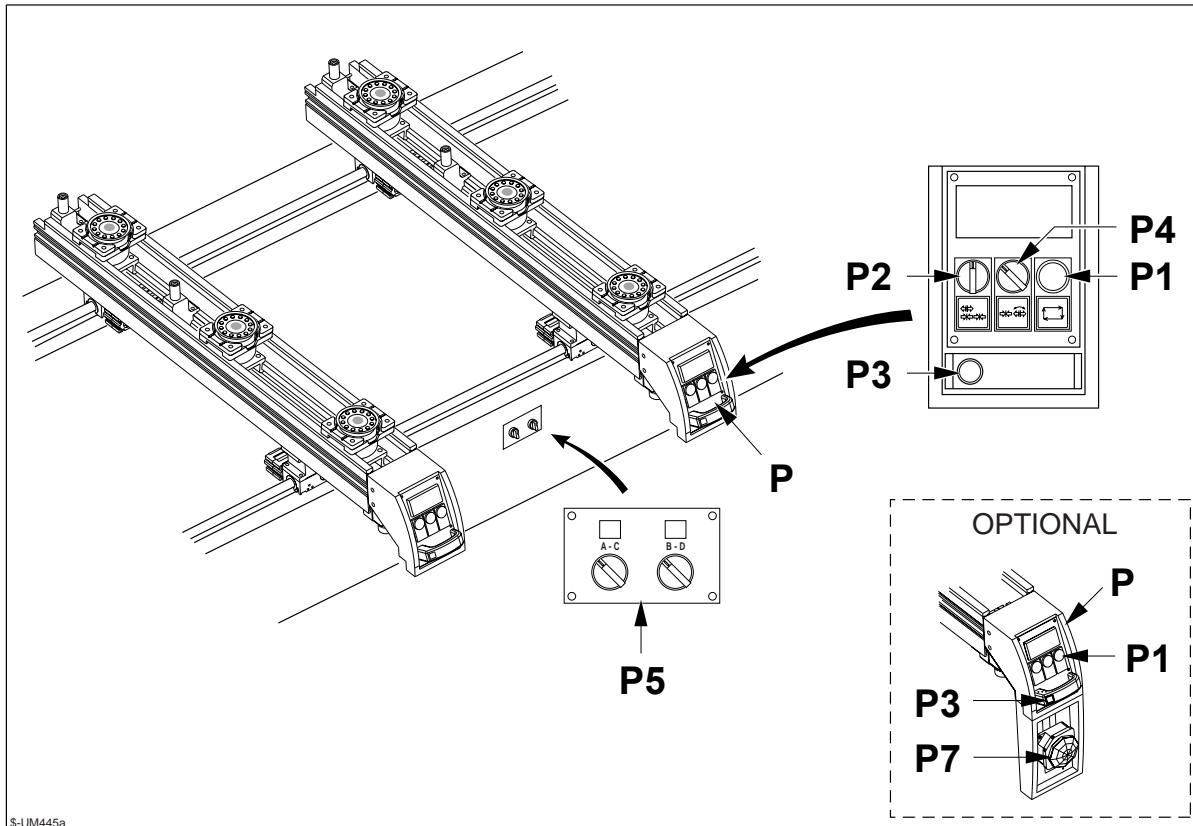

Fig. 4.6
- Press start pushbutton P1 (Fig. 4.6).
- Press start pushbutton P1 (fig. 4.6)